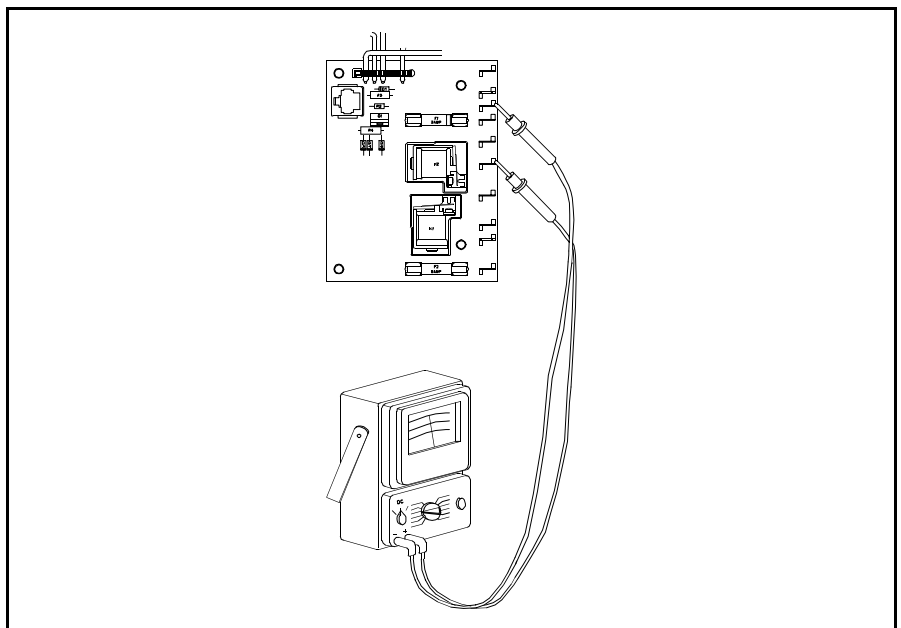

Figure 5.60 12 Volt DC Output Check
- Check the DC heater terminals on the Power Supply for 12 volts as shown in Figure 5.60. J-3 is -, J-6 is +. If 12 volts is not measured, replace the Power Supply.